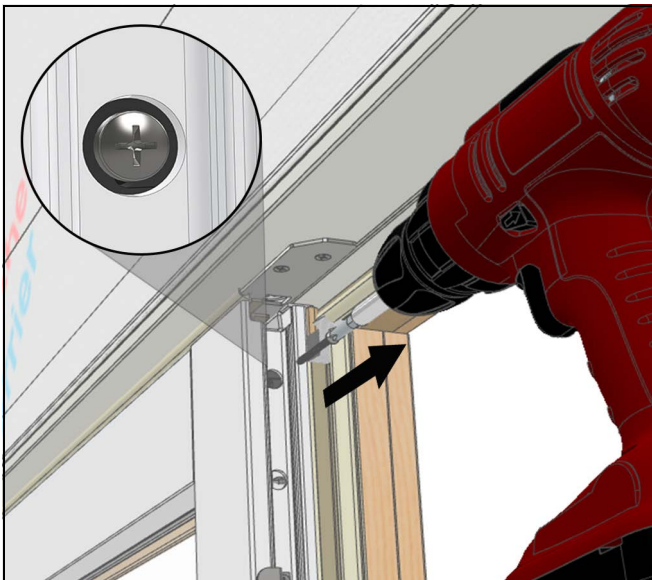

Figure 10
2. Remove one screw (pan head from the panel). See Figure 10.